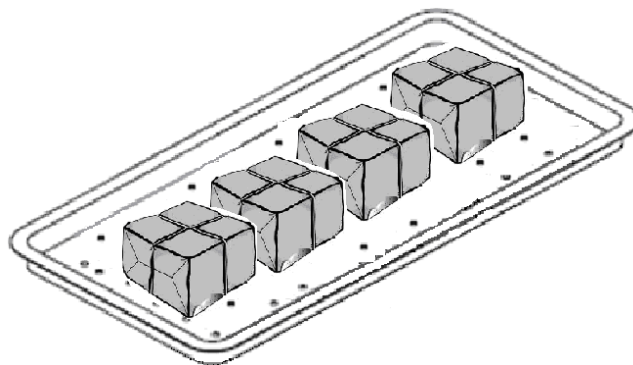

Figure 30
**Warning:** To sterilize absorbent cotton or woolen, please wrap it with a thin towel, covering cloth, linen, or sterilizing pouch to avoid piping clog according to Figure 30.